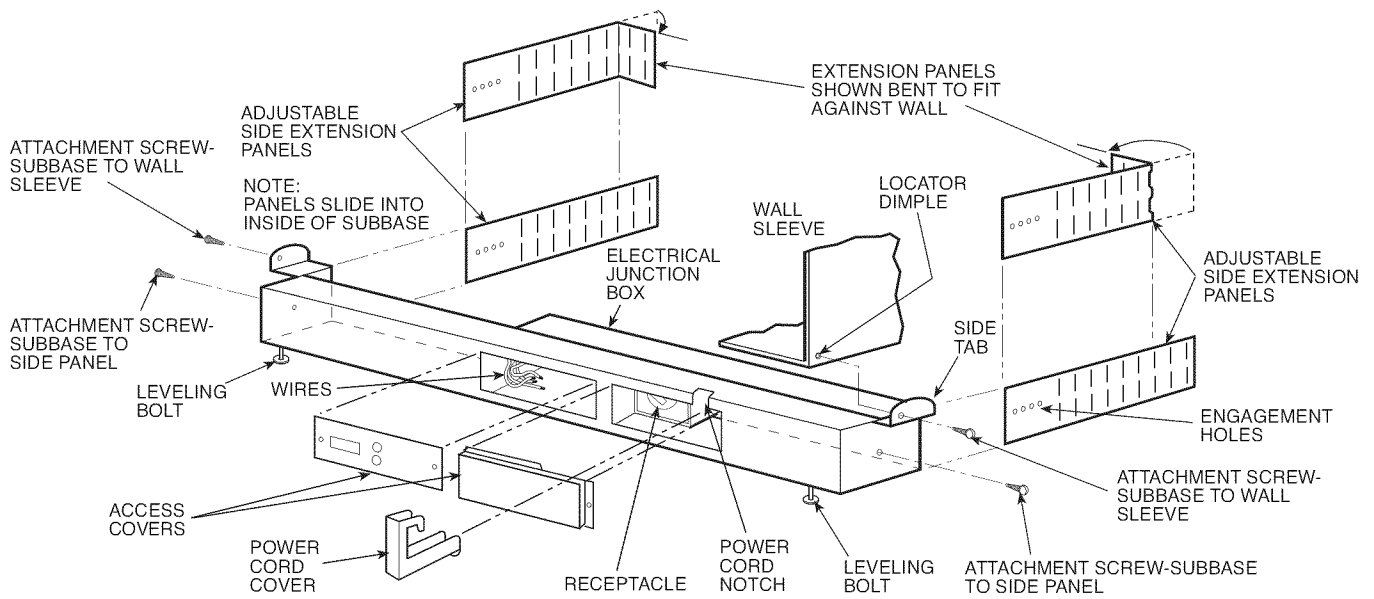

Fig. 1 – Electrical Subbase Assembly
Step 2 —Prepare wall sleeve. Drill one 1/8 in. (3.18 mm) hole on each side of wall sleeve. If installing plastic sleeve, use locator dimple on outside of sleeve. Drilling can be done through the plastic from inside if desired. See Fig. 1.
Step 4 —Attach Side Extension Panels to subbase using one black screw on each side so that panel end extends dimension X plus 2 in. (50.8 mm) from front of subbase. To adjust side panel, simply bend panel at slot position. See Fig. 1 and 3.
NOTE: Use engagement holes for more exact fit to wall. See Fig. 1.
Step 7 —Attach subbase to wall sleeve. Subbase has side tabs for mounting the subbase to the sleeve. Be sure hole on side tab is lined up with pre-drilled locator hole on side of sleeve. Once holes are aligned, attach subbase to sleeve with one (1) black screw on each side. Do not over tighten. See Fig. 1 and 4.
NOTE: Cord should be routed out through the rectangular cord notch located on top-front of subbase. **DO NOT** remove the U-shaped knockout on receptacle access cover. See Fig. 1 and 4.